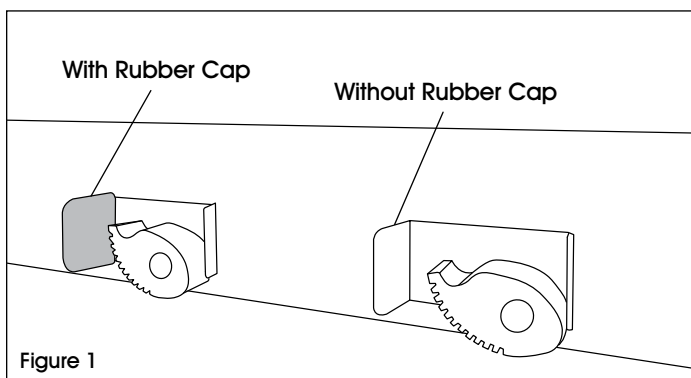

Figure 1
3. In the event your handle is experiencing slippage and not fitting tightly, place one of the enclosed rubber caps onto the steel end of the individual cam (directly opposite the rubber grip) and repeat steps 1 and 2. (See Figure 1)